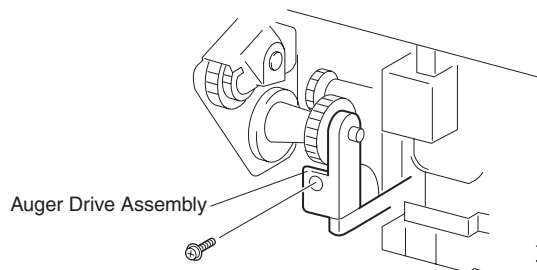

Figure 1
4. Loosen the two screws securing the Cleaner Support to the printer frame and remove the Cleaner Support (Figure 1).